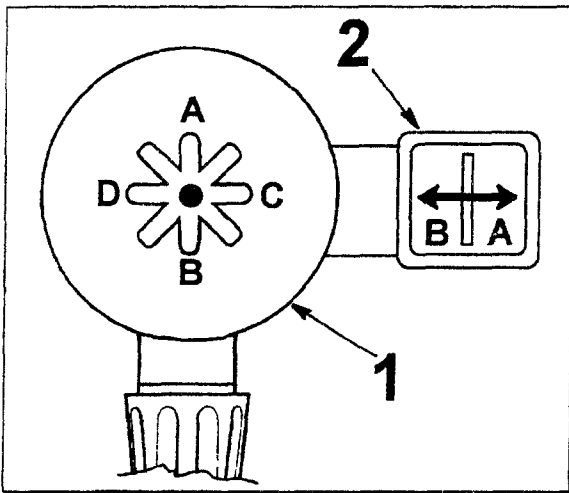

Fig.13
3. Operate the control (#1 Fig.13) to position A: the chuck arm moves upwards. Operate the control (#1 Fig.13) to position B: the chuck arm moves downwards.
4. Operate the control (#1 Fig.13) to position C: the toolholder carriage moves to the right. Operate the control (#1 Fig.13) to position D: the toolholder carriage moves to the left.
5. Operate the control (#2 Fig.13) to position A: the toolholder arm moves to the right. Turn the switch to position B: the toolholder arm moves to the left.